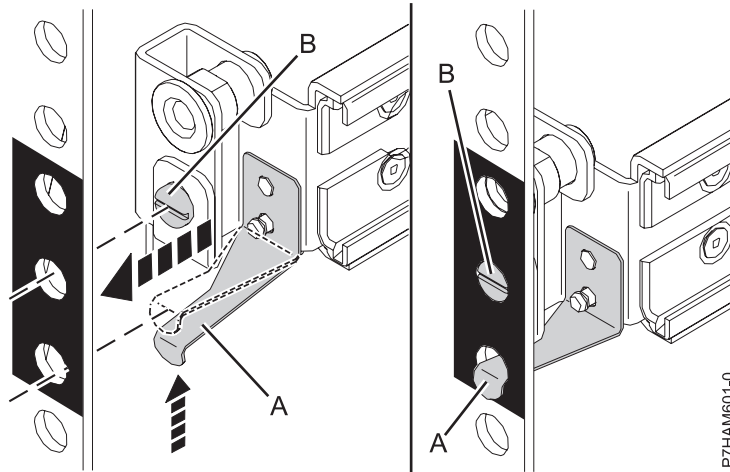

Figure 8. Mounting the rail to the front of the rack
- The tension clip (A) points toward the front of the rack and aligns with the bottom EIA hole that you marked previously, as shown in Figure 8 on page 10.
- c. Bend the tension clip (A) up and insert it into the bottom EIA hole that you marked previously, as shown in Figure 8. Ensure that the lip of the clip is brought fully through the hole and clasped against the bottom of the hole. Seat the alignment screw (B) in the middle EIA hole that you marked previously.